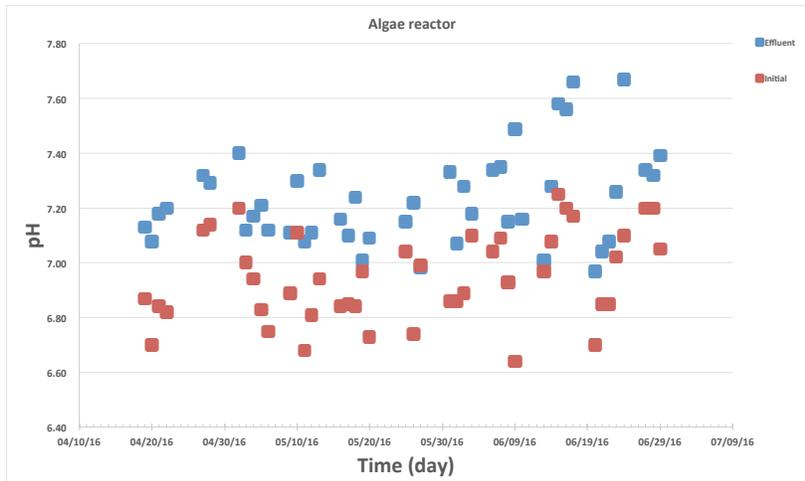

Fig. 2. The pH values of the influent (red) and effluent (blue) samples collected from the algae granular sludge bioreactor.
- The pH values of the bioreactor increased from around 6.8 to 7.4-7.6 (**Fig. 2**), indicating that algae/cyanobacteria grow and fix CO₂ and/or denitrifiers reduce NO₃⁻.